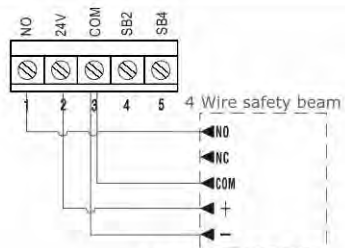

Fig 13
- c. 24VDC universal receiver (Fig.13)